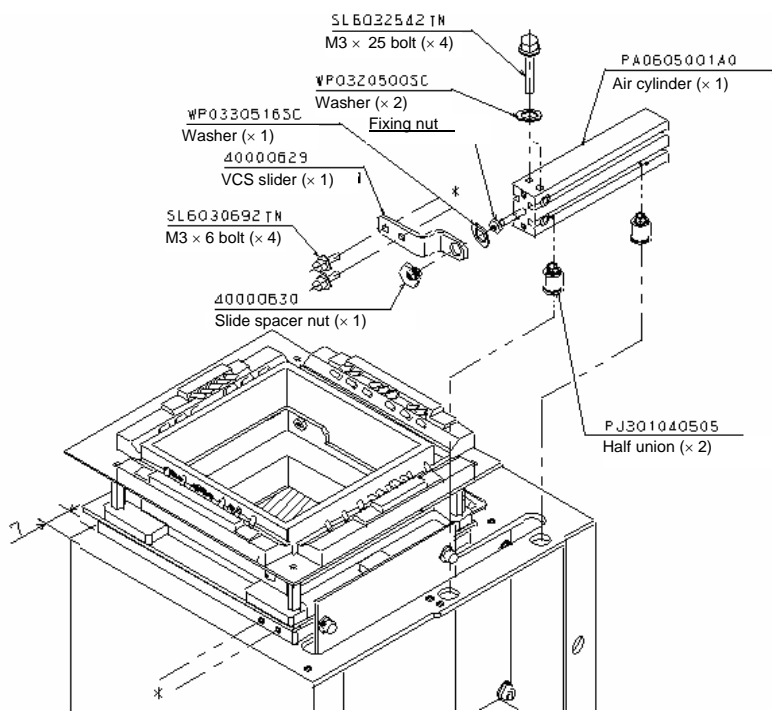

Figure 8-2-2
- 3) Replace the cylinders with new ones (see Figure 8-2-2). Assemble the components so that there is no tendency for any load to be exerted on the cylinders.
- 2) Adjust the air cylinder so that the slide unit falls at the position of 7 mm when the cylinder is most stretched. (See Figure 8-2-2.)